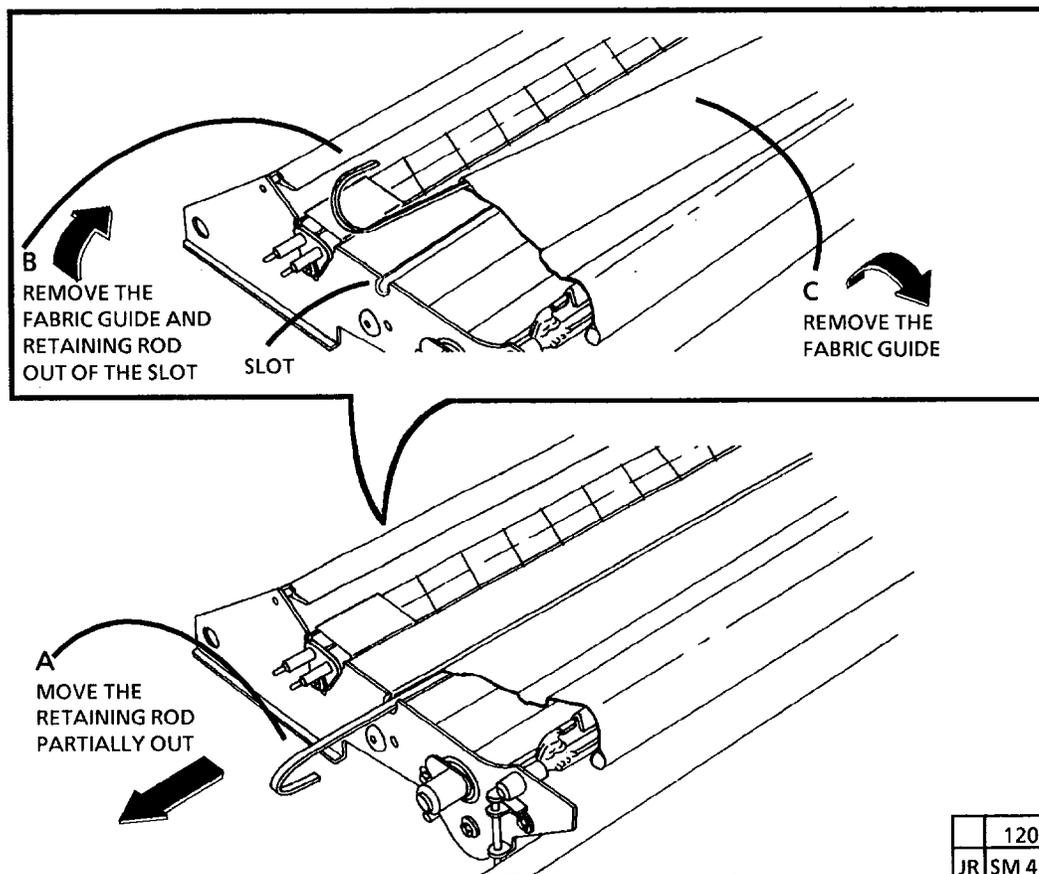

Figure 1. Remove the Fabric Guide
- (FIGURE 1): REMOVE THE FABRIC GUIDE.